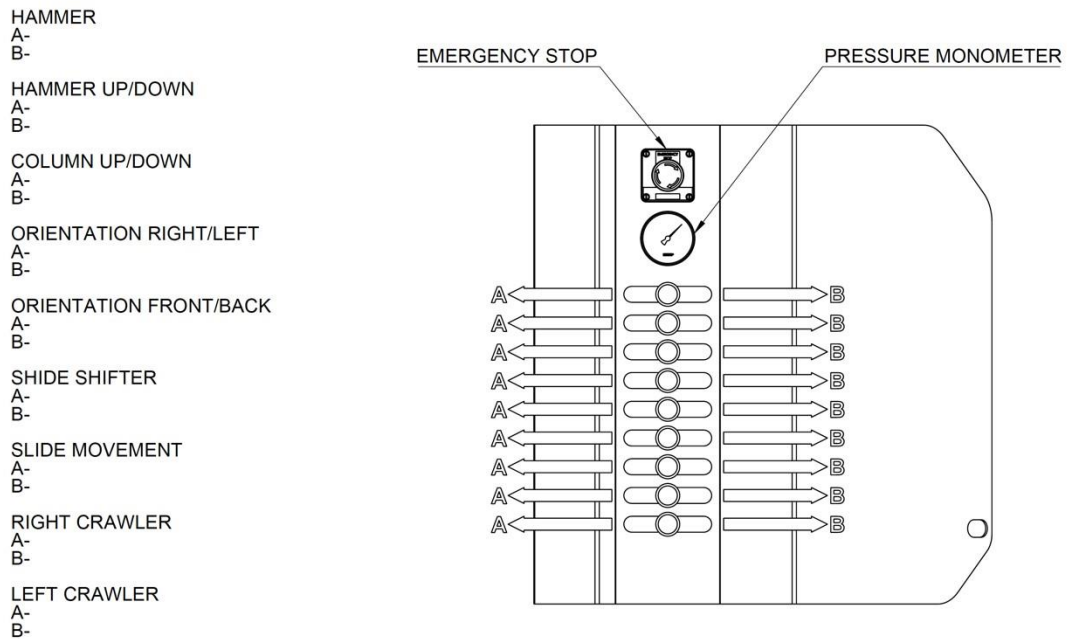

Fig.14 Controls and Checking Components
All controls on the Quantum Pile Driver are fitted with a pressure relief valve. All the levers, apart from the first one (the one indicated in the figure 14 items 1.), can be activated in two positions. The levers will automatically return to their starting or neutral position. The first lever, the one for the hammer activation, can block itself due to a mechanic block at the endpoint. The movement of a lever in a position, in any case, consents to the realization of a precise function, for example the column orientation.